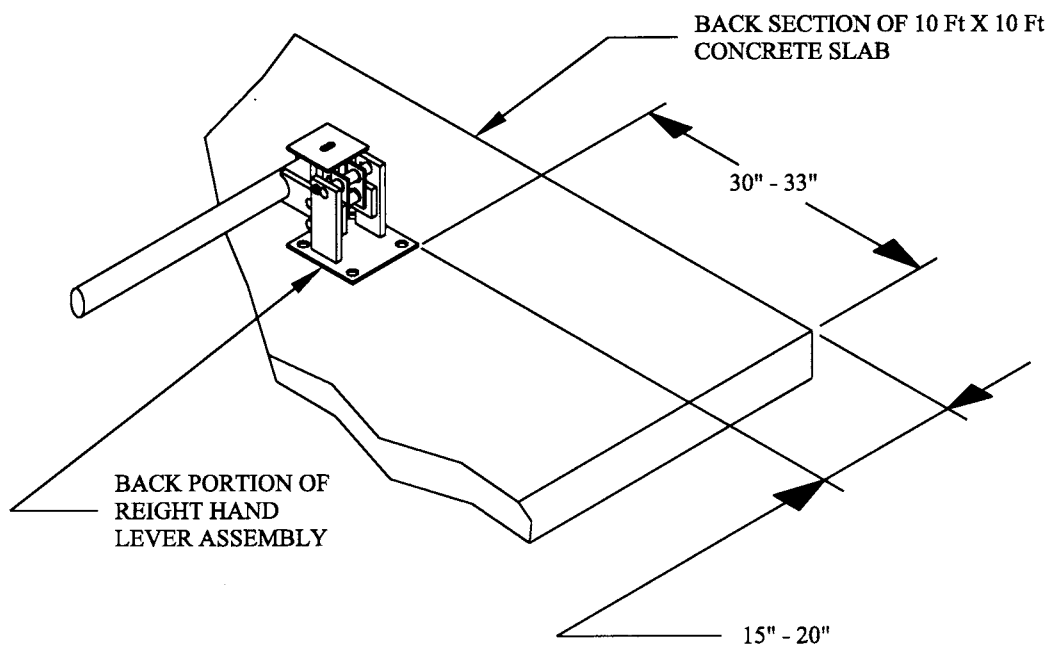

FIG 3
STEP 3. On a 10 ft x 10 ft concrete slab (assuming that is the size that was poured) the Right Hand Lever Assembly can be positioned approximately 30"-33" and 15"-20" from the back right corner of slab. See Fig 3.